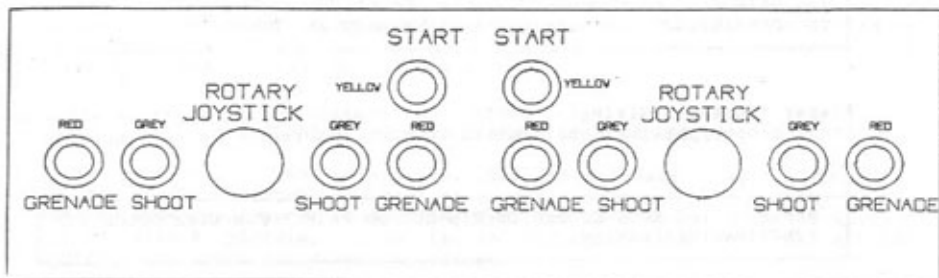

Figure 1
**Control Panel:** This is never any fun, so lets do it first and get it out of the way. Select a button and joystick layout that fits your control panel size. Refer to figure 1 for the suggested panel layout.
Install the Control Panel Overlay by peeling off the paper backing and carefully laying the overlay down onto the panel. Smooth it out starting in the center and working your way out to the edges, removing all of the trapped air pockets. If possible, cut the edges of the overlay oversize and fold the excess under the panel. Cut out the button and joystick holes. Install the Control Function Labels found on the sheet of labels supplied in your kit. NOTE: Install the Control Function Labels in the formation shown in figure 1.